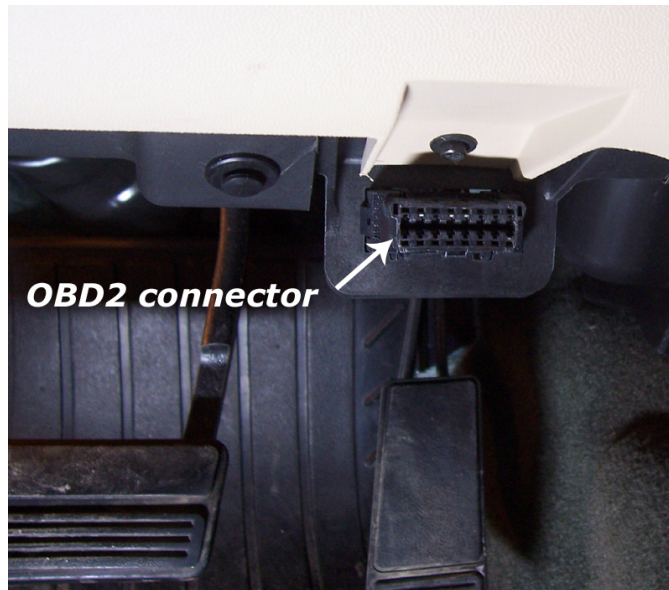

Figure 2
4. **Plug the cable connector into the OBD2 connector.** See figure 2. The data and ground connection come from this connector. Connect separate power wire, which exits the cable's OBD2 connector, to a switched 12v line or circuit in the vehicle. These circuits are commonly known as "accessory" circuits because they are only "hot" when the ignition is turned on. A recommended way of doing this step is to use a product called an "Add a Circuit", made by *Littelfuse*, available at most car parts outlets. These kits, which sell for under \$10, allow you to easily use an existing circuit in the fuse block to power an add-on accessory such as the *Interceptor* without the need to cut or splice any wires. The use of this kit is highly recommended, as most of the problems with the gauge can be traced to a poor selection of a 12v wire, or poor connection. If the gauge randomly turns off and on while driving, 99% of the time it is a poor connection to 12v or an improper circuit was tapped into, such as a signal wire to the instrument panel.